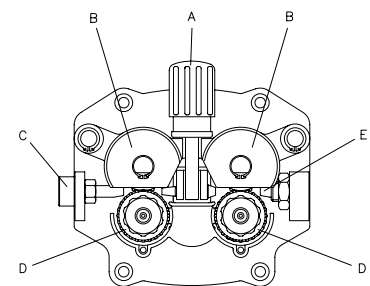

FIG. 5
**! Tighten nut to appropriate tightness. Excessive pressure strains the wire feeding motor. Too little pressure does not allow the immediate stop of the wire spool at the end of the welding. Loosen and lower the plastic knob (A) (Fig.5). Open the pressure arm (B) of the feeder. Extract the wire from the torch liner (E).**
- When the wire is disconnected, grasp it with pliers so that it cannot exit from the spool. If necessary, straighten it before inserting it in the wire input guide (C). Insert the wire on the lower roll (D) and in the torch liner (E).
- Lower the pressure arm (B) and place the knob (A). Tighten slightly. If tightened too much, the wire gets locked and could cause motor damage. If not tighten enough, the rolls will not feed the wire.
- Open the side panel. Loosen and lower the plastic knob (A) and release the pressure arm (B) (Fig. 5). Cut the wire (in the case it is installed) grasp it with pliers so that it cannot exit from the spool and fix it on the suitable hole in the reel. Remove the nozzle and contact tip. Remove with pliers the wire from the hose and torch assembly.